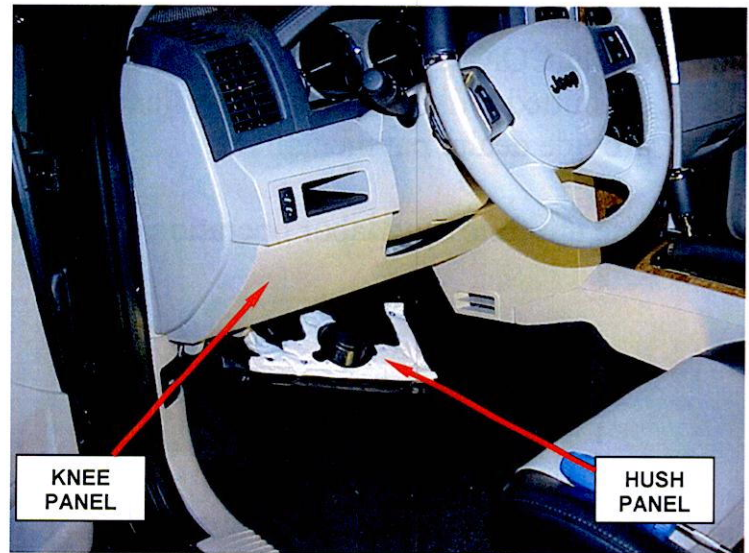

Figure 9 – Panel Locations
51. Install the driver side knee panel and hush panel (Figure 9).